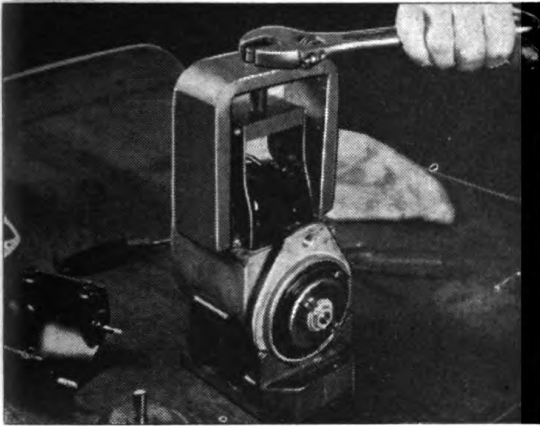

Fig. 51. Pulling Coil From Magneto Frame
- (a) Using the coil puller, No. 5 Fig. 37, slip the hooks on the puller jaws under the bars through the coil. Fig. 51.
- (b) Place the outer jaws over the puller jaws against the magneto frame. Fig. 51.
- (c) Put the puller bolt in place and by turning with a wrench pull the coil from the frame. Fig. 51.
Using the coil puller No. 5 Fig. 37 as shown in Fig. 51 and described in "The Coil" page 75.